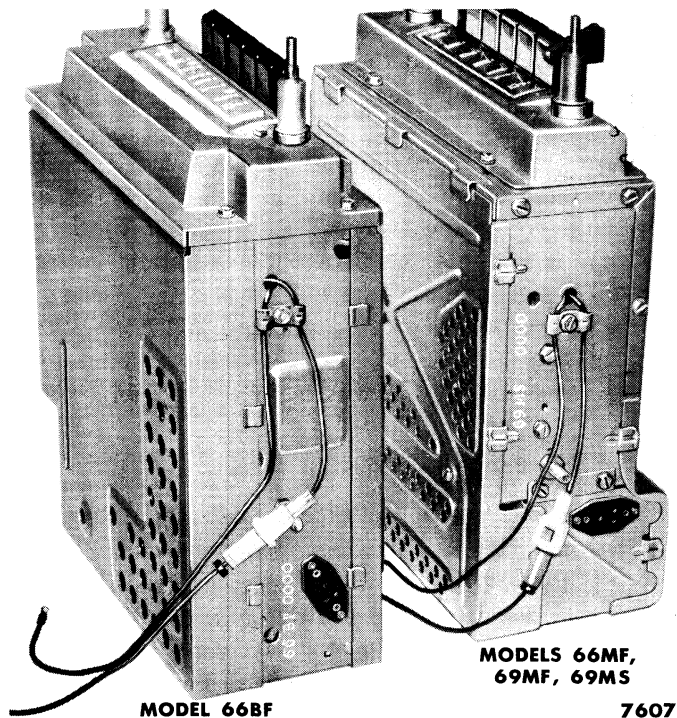
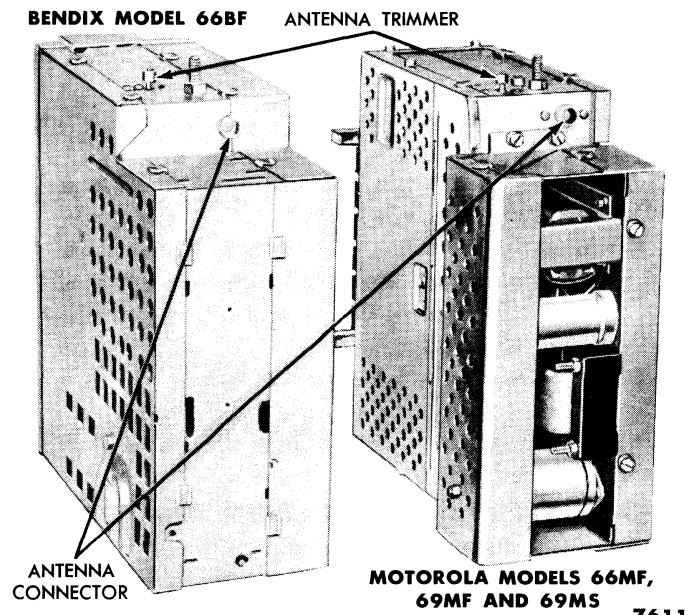

Fig. 4—Serial Number Location
Fig. 6—Antenna Connector and Trimmer
(1) **MODEL IDENTIFICATION.** Three models of radio receivers are available. Table 1 gives information on the model identification. The model number identifies the manufacturer and is the prefix to the serial number stamped on the side of the receiver (fig. 4).
(3) **CHASSIS CONNECTORS.** The antenna connector and trimmer condenser are located on the right side of the receiver as shown in fig. 6. The fuse is located in a plastic holder in the "A" lead which is
attached to the left side of the receiver as shown in fig. 4. The speaker is connected to the receiver chassis with a three-prong polarized connector (fig. 6).